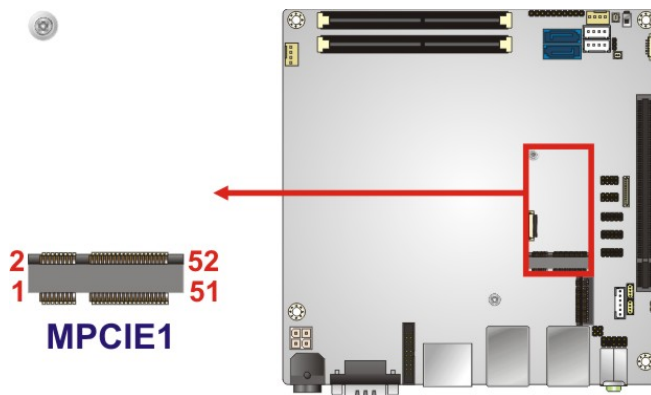

Figure 3-20: PCIe Mini Slot Location
- CN Location:** See **Figure 3-20**